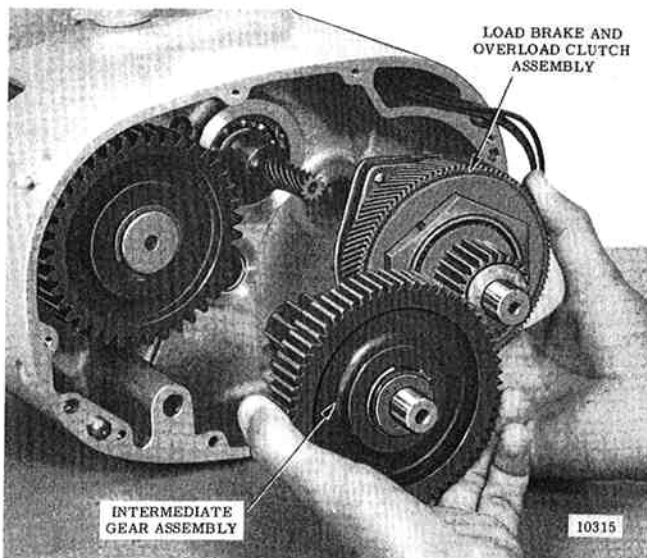

Figure 7-8. Removing Load Brake and Clutch and Intermediate Gear Subassemblies (1 thru 5 Ton Hoists).
(2) On 1 thru 5 ton hoists, pull load brake and clutch assembly and intermediate gear assembly, including the thrust washers for each unit, from hoist frame (fig. 7-8).